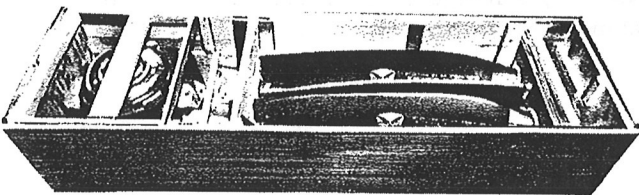

Figure 10—Uncrating the Propeller
- b. Remove the retaining board and the hub core plug from the regulator. (See figure 10.)